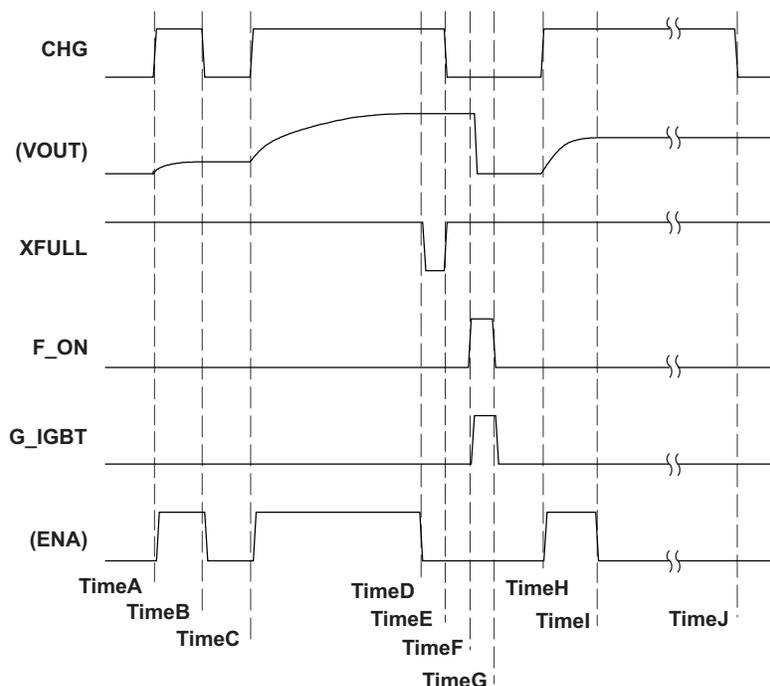

Figure 4. Whole Operation Sequence Chart
The only way to *start* charging is to input $\text{CHG}\uparrow$ (see time A/C/H in Figure 4). Each time $\text{CHG}\uparrow$ is applied, the TPS65561 starts charging.
1. Forced *stop* by inputting $\text{CHG} = \text{L}$ from the controller (see timeB in Figure 4).
2. Automatic *stop* by detecting a full charge. *VOUT* reaches the target value (see TimeD in Figure 4).
3. Protected *stop* by detecting an over current function (OV_{DS}) trigger at SW pin (see TimeI in Figure 4).
The device starts charging at *timeH*, and OV_{DS} protection occurs at *TimeI* (see Figure 4). At *TimeI*, *XFULL* stays high. At *TimeJ*, the controller detects OV_{DS} protection through the expiration of a timer and then sets *CHG* to low to terminate the operation.
The TPS65561 provides an overvoltage monitor function of the SW pin. The TPS65561 is latched off if the voltage on the SW pin is above OV_{DS} during the switch ON time (see Figure 4 and its descriptions).